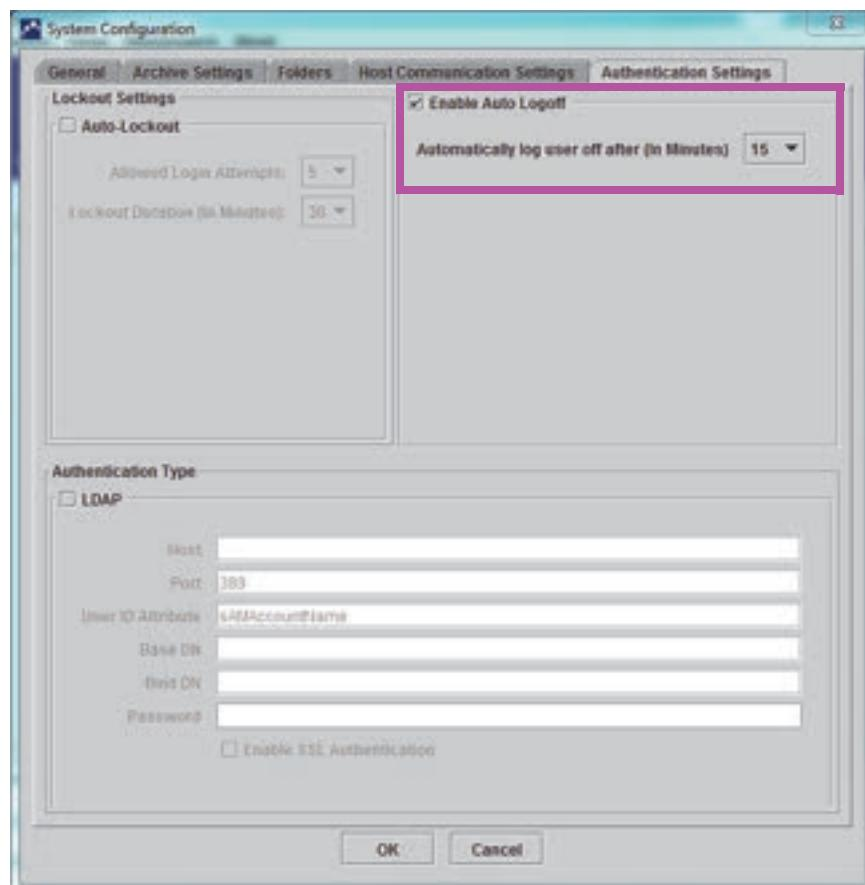

Figure 2-86. Authentication Settings Configured for Auto Logoff
2. Click the **Authentication Settings** tab; the Authentication Settings information appears. See Figure 2-86.